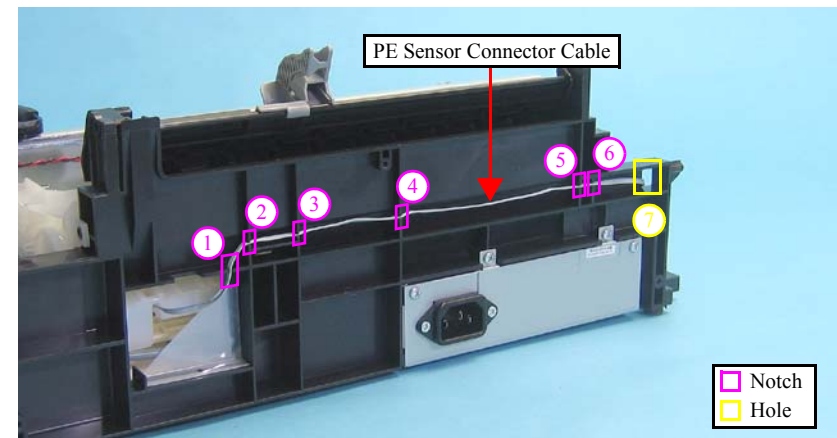

Figure 4-78. Releasing the PE Sensor Connector Cable
- Route the cable in the order given in Figure 4-78.